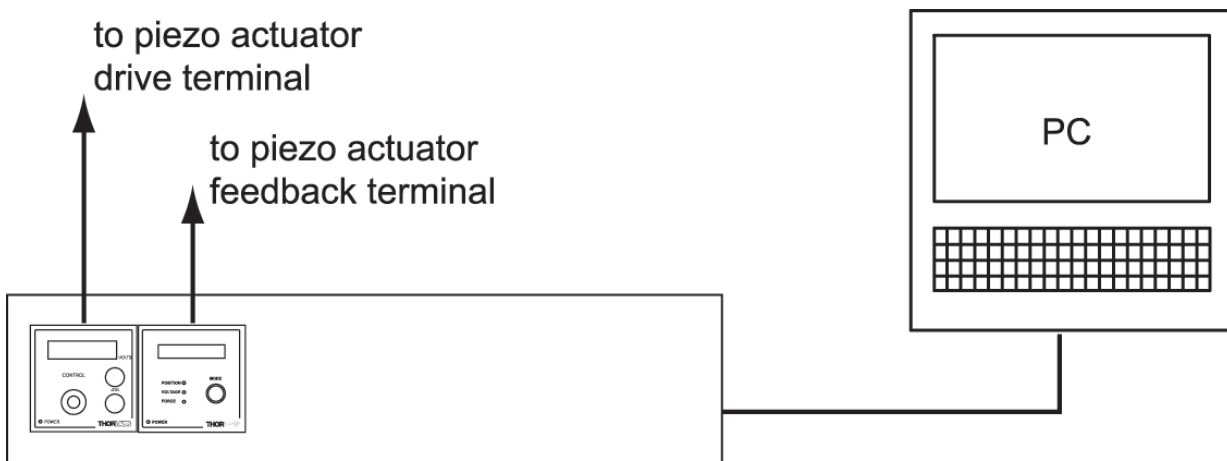

Fig. 5.7 Typical System Set Up - Hub Operation
The following procedure describes a typical set up, when a KPZ101 piezo driver cube and a KSG101 Strain Gauge Reader are used on the TCH002 controller hub to drive a piezo actuated stage - see Fig. 5.7 for a general system schematic diagram.
- 2) Install the units onto the controller hub. Fit the Piezo unit in bay 1, and the Strain Gauge Reader in bays 2 as shown in Fig. 5.7.